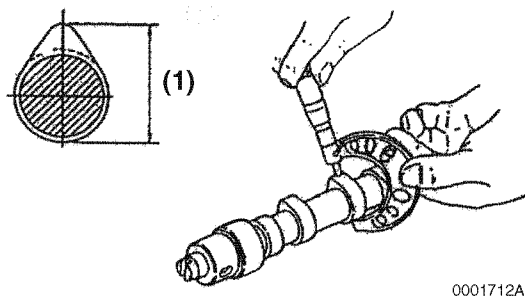

Figure 6-125
3. Measure the height of each lobe (**Figure 6-125, (1)**). See *Camshaft* on page 6-9 for specifications.